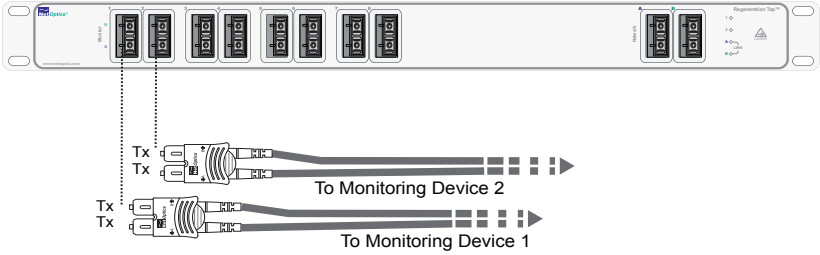

Figure 7: Connecting Monitoring Devices
2. Connect the twin-duplex end of the cable labeled into the appropriate monitoring device port to monitor the link (see Figure 7).